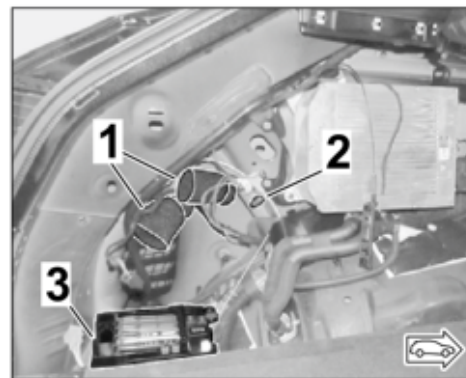

Figure 4
1.4 Expose connector B (6-pin)/connector C (10-pin) on trailer hitch preparation near the fuse box in the luggage compartment ⇒ *Figure 4.*